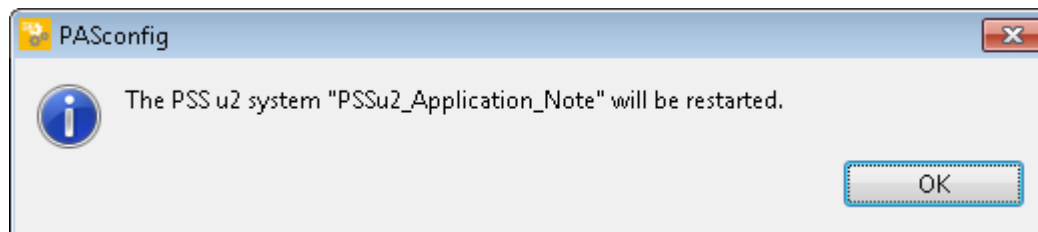

Figure 36: PASconfig – Set SNN » Restart PSS u2 system (Part 3)
- ▶ Paste the previously copied Safety Network Number (Figure 36, page 28) in the first text field via shortcut “CTRL+V”: